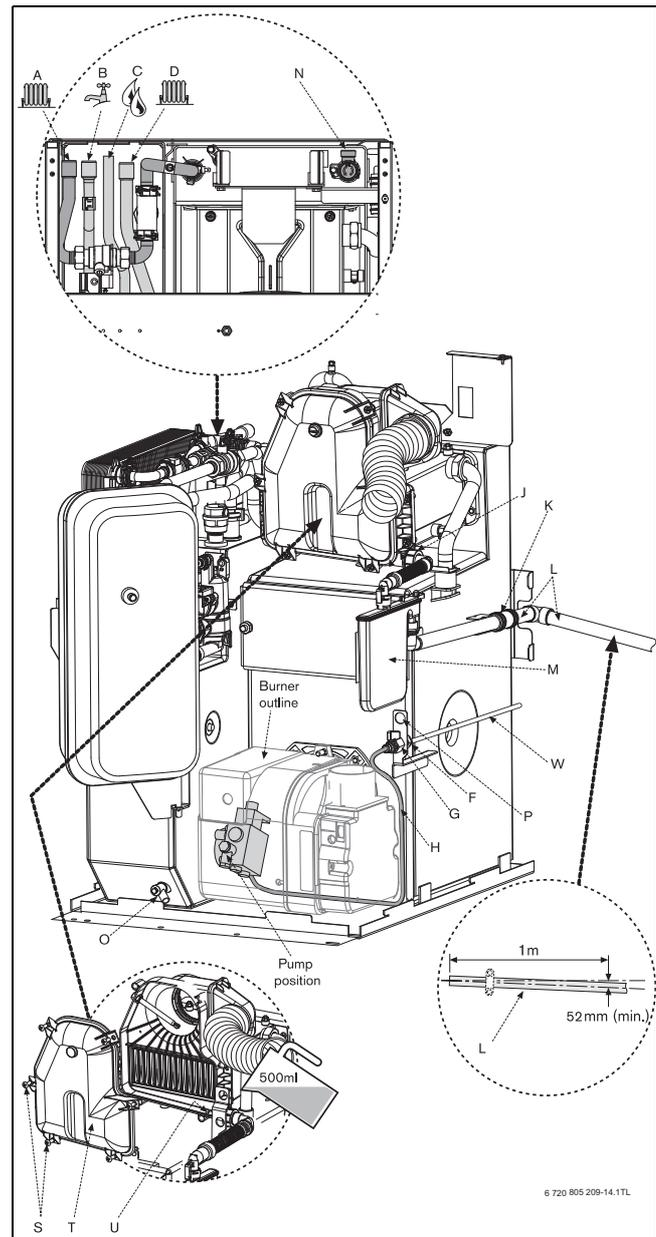

Fig. 34 Pipe connections
2. Connect the flexible oil pipe return hose [3] (not supplied) to the oil pump and return pipe fixing and tighten to secure (for routing see figure 34).
- ▶ Check that the burner is seated correctly on its mounting flange and that the oil hose/s are routed correctly as shown in Fig. 34 and not trapped in front of or underneath the burner.